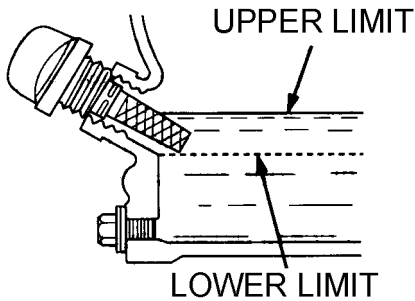

Figure 23. Engine Oil Dipstick (Oil Level)
- If the oil level is low (Figure 23), fill to the edge of the oil filler hole with the recommended oil type as listed in Table 4. Reference Table 3 for maximum engine oil capacity.